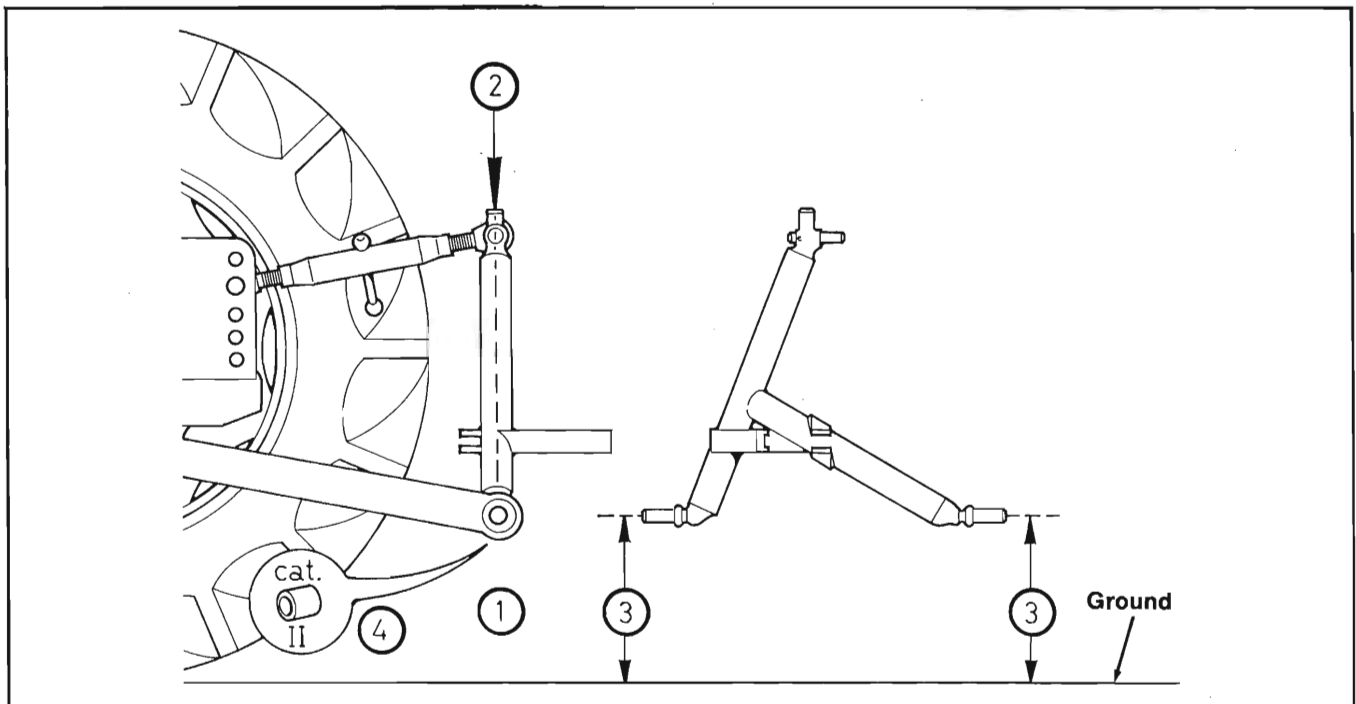

Fig. 1
1. Attach the Rake 3-point Hitch onto the tractor linkage (1 of Fig. 1).
2. Using the Toplink, place the 3-point top connector in a vertical position (2 of Fig. 1).
3. Using the Crank, position the Lower Links evenly over the ground (3 of Fig. 1).
NOTE: For Category II tractors, use the Bushings provided (4 of Fig. 1).